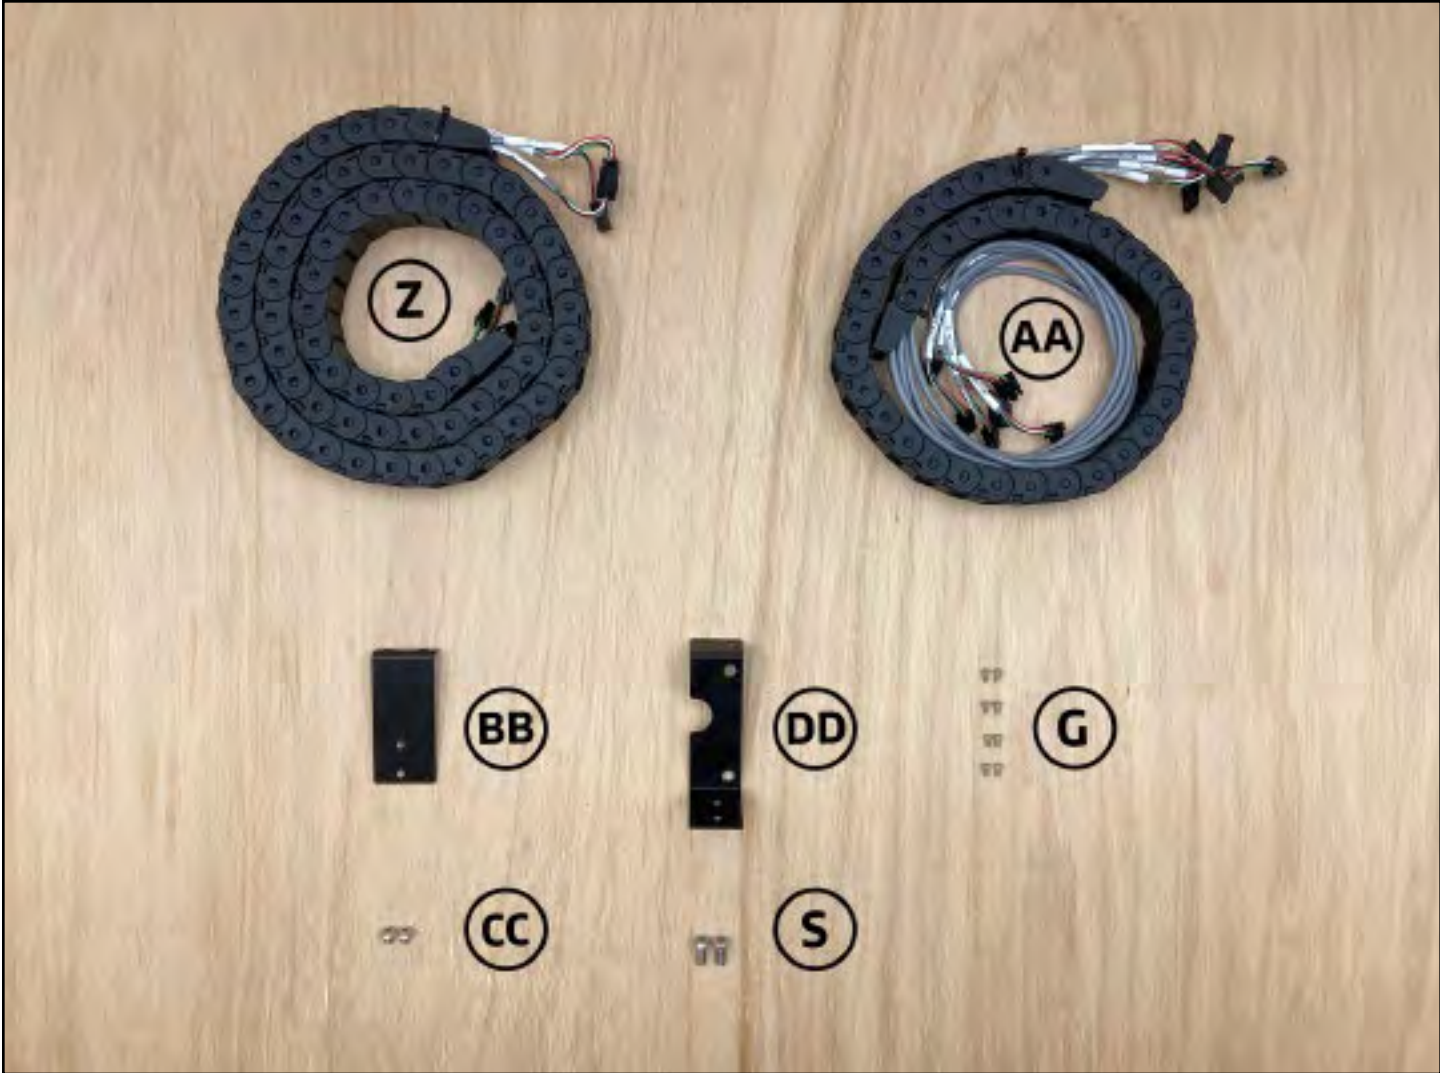

Figure 6-1
Step 6 – Drag Chain box contents; see **Fig. 6-1**.